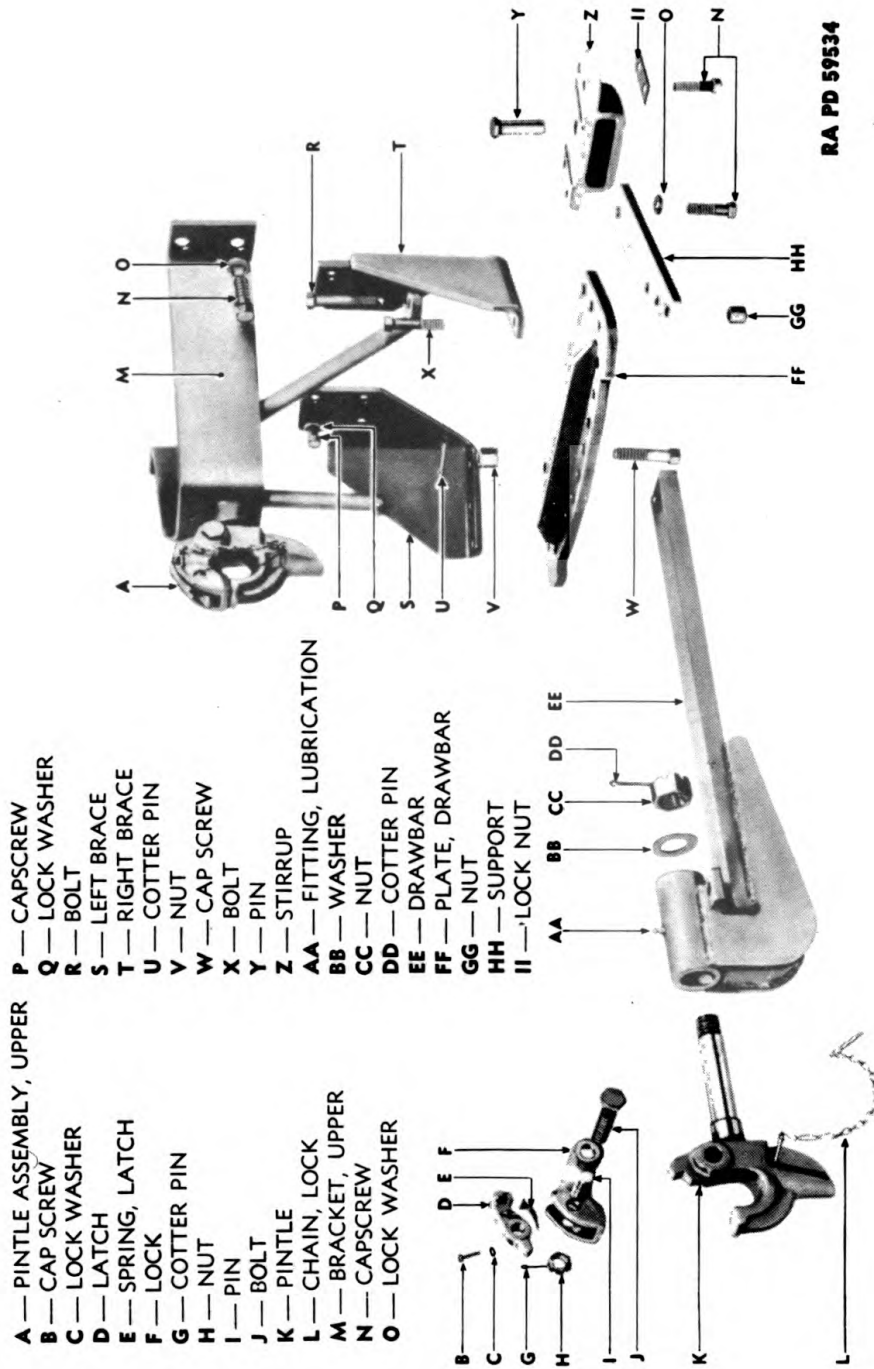

Figure 334 — Pintle Assemblies — Exploded View
(2) REMOVE DRAWBAR (fig. 334).Chisel, $\frac{3}{4}$ -in.Wrench, socket, $1\frac{5}{16}$ -in.